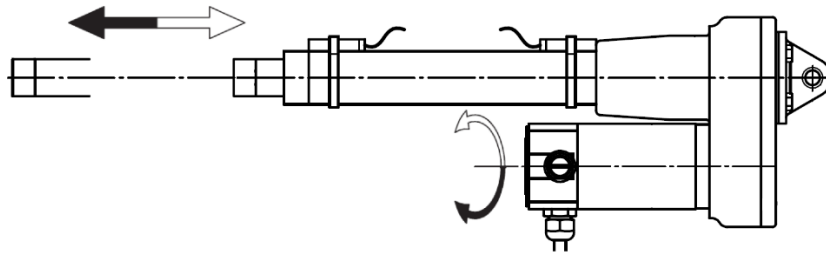

Figure 6.5 – Push rod shifting directions
- Check if the extreme dimensions of the actuator “Lc” and “La” (see Fig. 6.5) are compatible with extreme positions of the plant component that has to be moved.